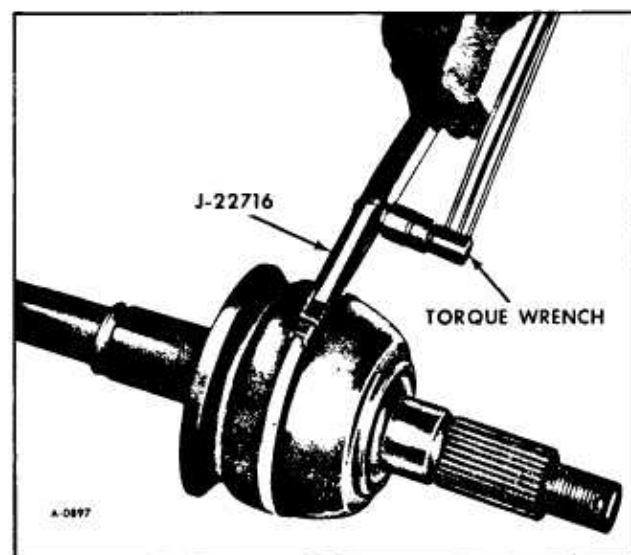
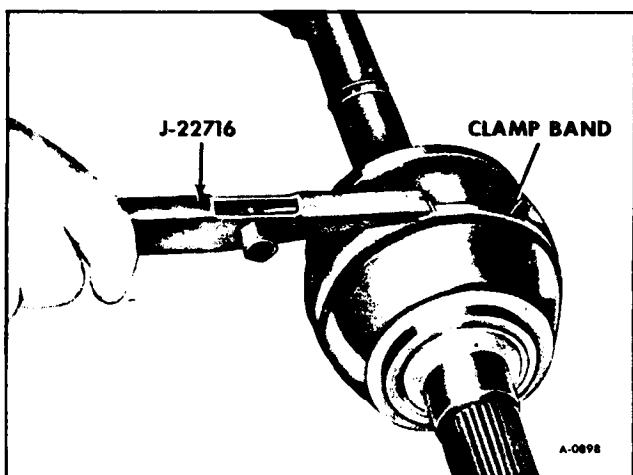

Figure 16—Tightening Band
Figure 17—Bending Band Over Lock Tangs
9. Install retaining ring into inner race with tangs protruding into relieved area. (figure 16)
f. Place a wrench on nut and draw band up tight, then torque nut to 65 in. lbs. (see figure 16) After desired torque is obtained, turn tool over to bend band over lock tangs of clamp, do not let band slip back through tool as this will decrease clamping force (refer to figure 17).